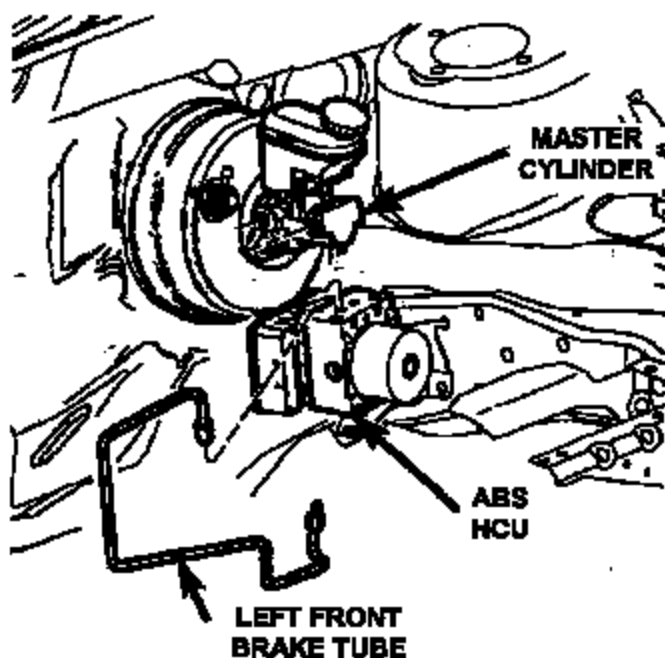

Figure 1
8. Disconnect the left front brake tube (2nd inboard position) from the ABS hydraulic control unit (HCU) (Figure 1).